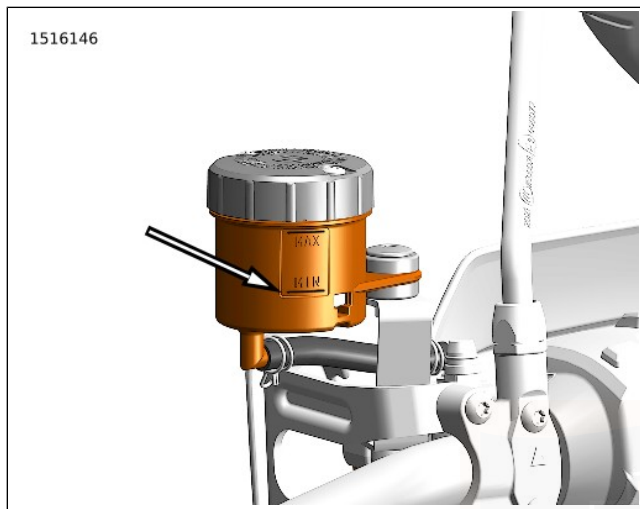

Figure 58. Front Master Cylinder Reservoir MIN Level
2. **Front:** See Figure 58 Check level on side of front brake reservoir. Level must be above minimum mark on side of reservoir.